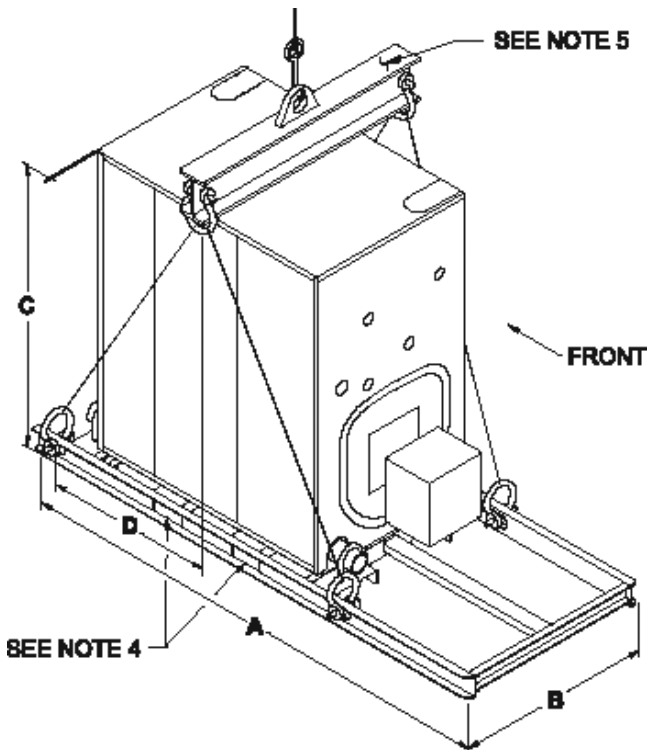

Figure 30: Shipping Information
1. The packaged boiler comes on its own shipping skid (see Figure 30) and the assembled block is hydrostatically tested at the factory. Once the boiler is in its final position, perform another hydrostatic test at 1½ times the working pressure of the boiler. The shipping skid can be used as a housekeeping pad unless local codes say otherwise. All controls are pre-wired down to the burner. If burner is equipped with a lead lag panel, lead lag controls will be shipped loose for header mounting. The power can be supplied to the burner if equipped with a control panel. If burner has no panel, the power is supplied to the J-box on the front jacket.